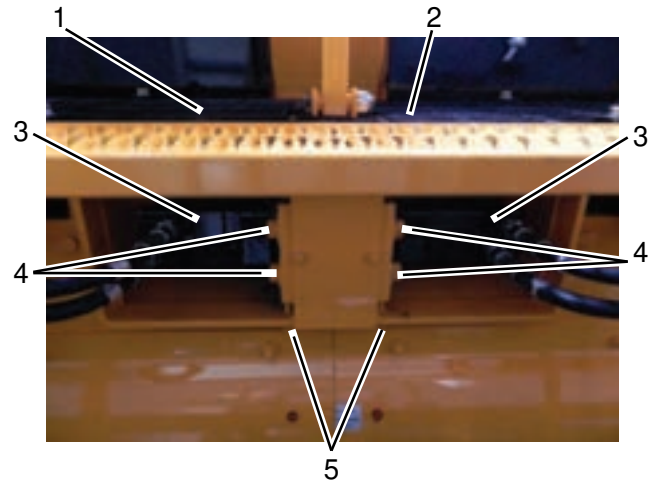

Figure 5-39. Auger Motors
5. Remove the two nuts on the cover and pry the cover apart. (**Figure 5-39**)